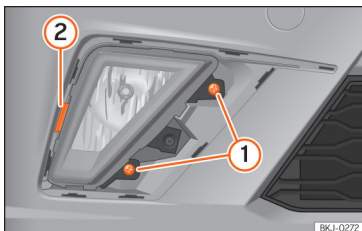

Fig. 57 Front fog light: remove the bulb holder
- Remove the two bolts » **Fig. 57** ① and lever the clip ② to remove the front fog light.